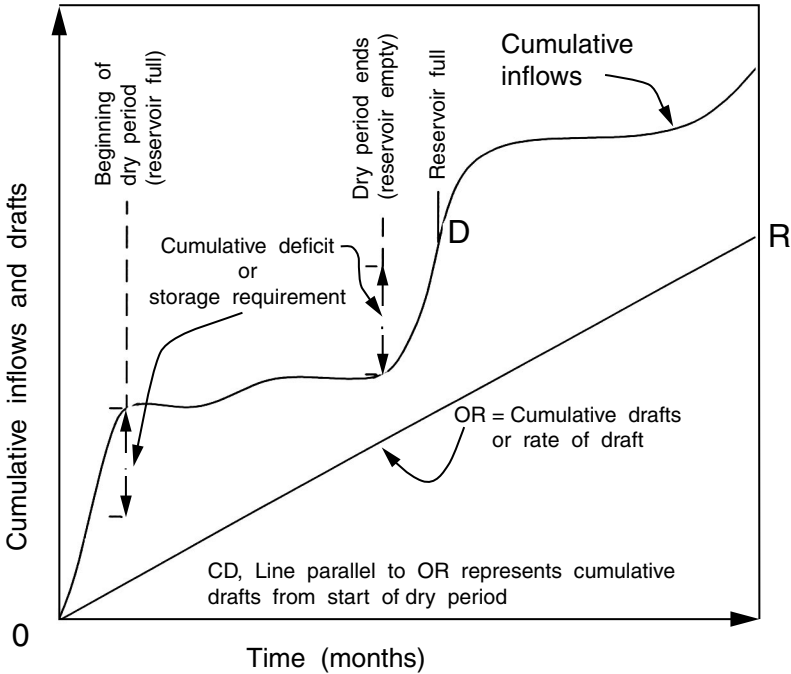

FIGURE R-4 Rippl diagram method.
**Rippl diagram** Same as mass curve. After W. Rippl, who published an article ("The Capacity of Storage Reservoirs for Water Supply") in the *Proceedings of the Institution of Civil Engineers*, 71, 270 (1883). See also Figure R-4; sequential mass-curve method.